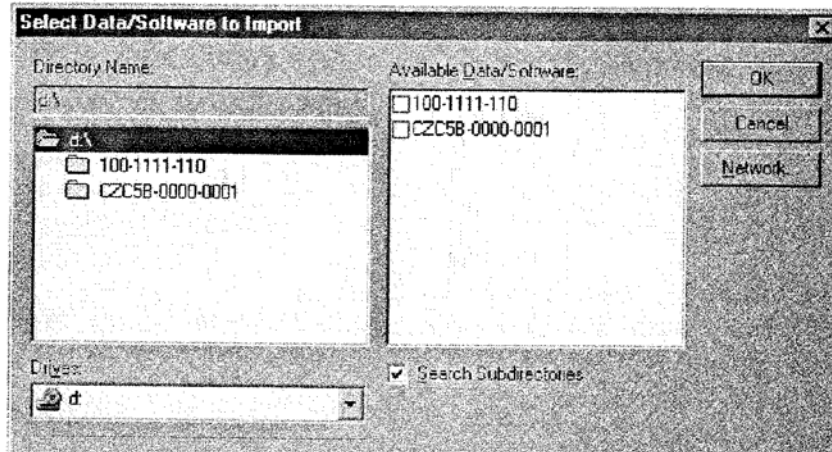

Fig. 206 - Select Data / Software Page
- (1) Double click on the Launch Pad icon.
- (2) The MANAGE DATA/SOFTWARE window can be accessed by either clicking on the Manage Data/Software button, or by clicking on the Data Loader button to launch the application and selecting File Manage Data/Software... from the Data Loader menu bar.
- (3) In the MANAGE DATA/SOFTWARE window, click on the Import... button.
- (4) In the SELECT DATA/SOFTWARE TO IMPORT window, select the CD-ROM drive from the Drives drop-down box.
- (5) Double click on a folder under the drive to display the directories contained in that folder (Ref. Fig 206). The data/software contained in the folder will be displayed in the AVAILABLE DATA/SOFTWARE display area. Select the folder containing the desired data/software item.